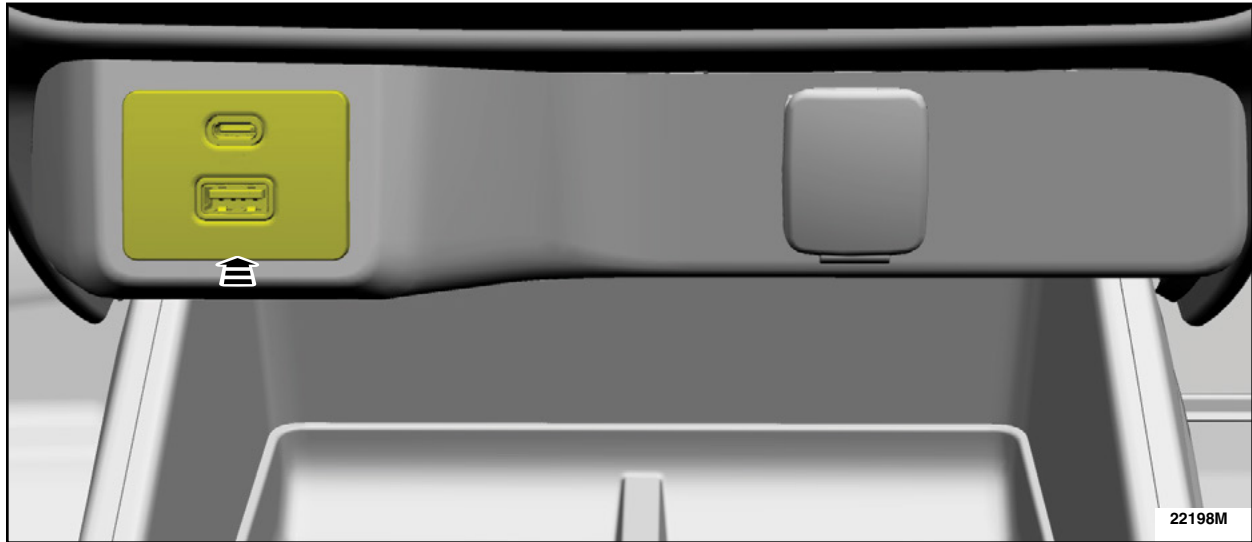

FIGURE 12
10. Install the media hub. See Figure 12.